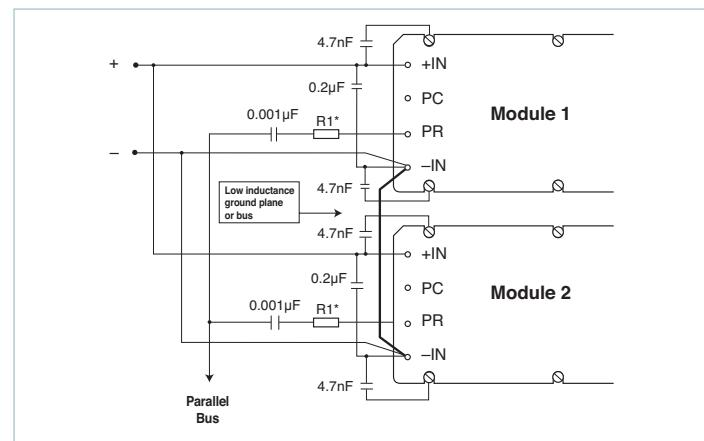

Figure 9 — AC coupled single-wire interface
**AC coupled single-wire interface.** All PR pins are connected to a single communication bus through 0.001 $\mu$ F (500V) capacitors. This interface supports current sharing and is fault tolerant except for the communication bus. Up to three converters may be paralleled by this method. See Figure 9.